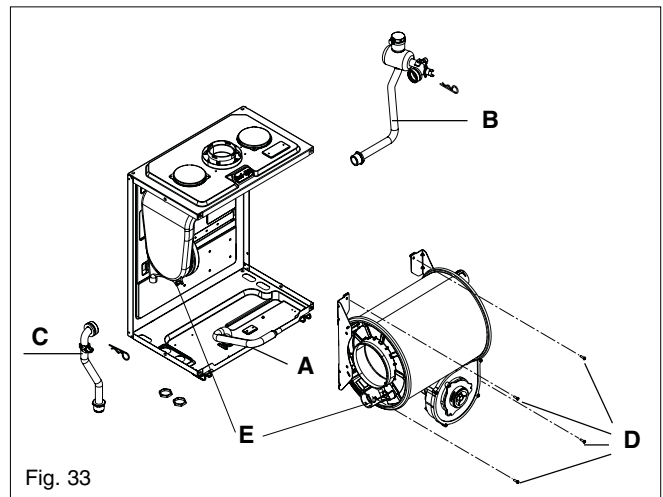

Fig. 33
6.16 MAIN HEAT EXCHANGER (fig. 33 & 34)
Fig. 33: Slacken the gas pipe (A) at the air box connection and swing/rotate of the fan assembly. Disconnect the flow (B), return (C) and condense connections on the heat exchanger. Locate and remove the 4-screws that secure the heat exchanger to the combustion chamber (D). Move the heat exchanger to the right and disconnect it from the flue collector (E). The heat exchanger can now be lifted up and withdrawn from the appliance.